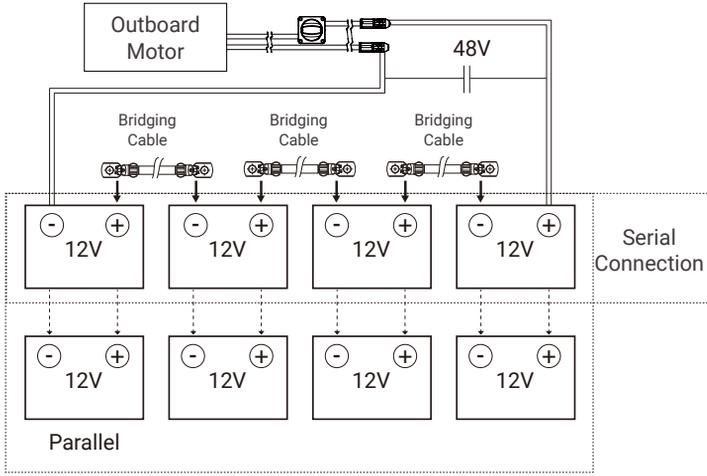

Figure 4-3
When connecting four 12V batteries in series to make a 48V battery set to supply power for NAVY 3.0 Evo, use bridging cables to connect batteries in series (Figure 4-3). Make sure to connect the main switch cable to battery positive terminal and the other cable to battery negative terminal.
- ⚠ Never reverse the polarity. Please pay more attention when connecting batteries in series and/or in parallel configuration. Always double check by referring to Figure 4-3.